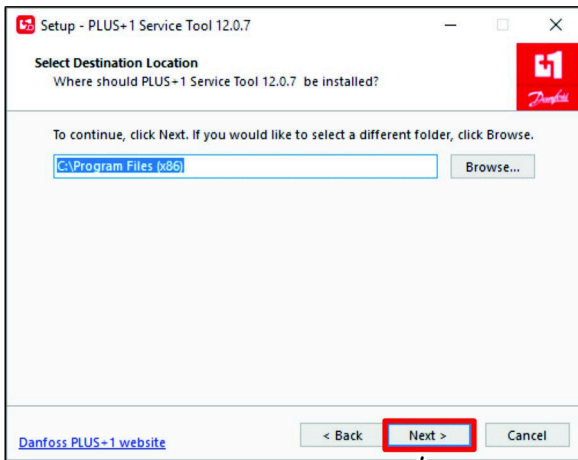

Figure 23
5. In the Select Destination Location dialog box, click the NEXT button (Figure 23).